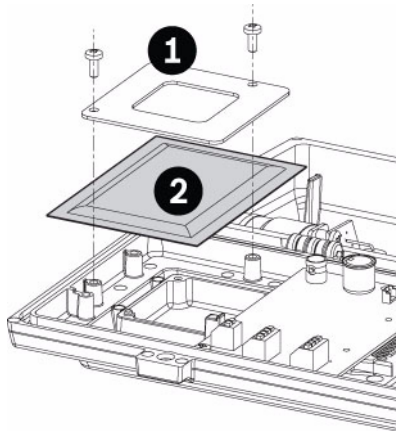

Figure 3.4 Attach Desiccant Bag
6. Place the desiccant bag inside the housing as shown in *Figure 3.4*, with the desiccant bag secured into position by the metal fixing accessory and two fixing screws (supplied in the Desiccant accessory bag).